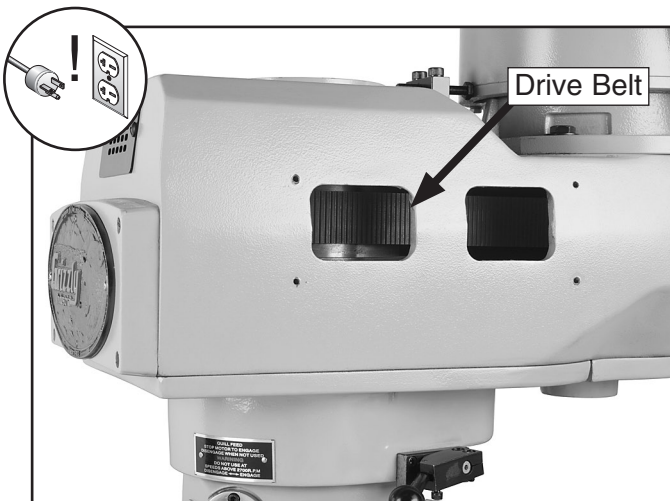

Figure 59. Access panel removed to access drive belt.
2. Remove the belt access panel from the right side of the head (see **Figure 59**).